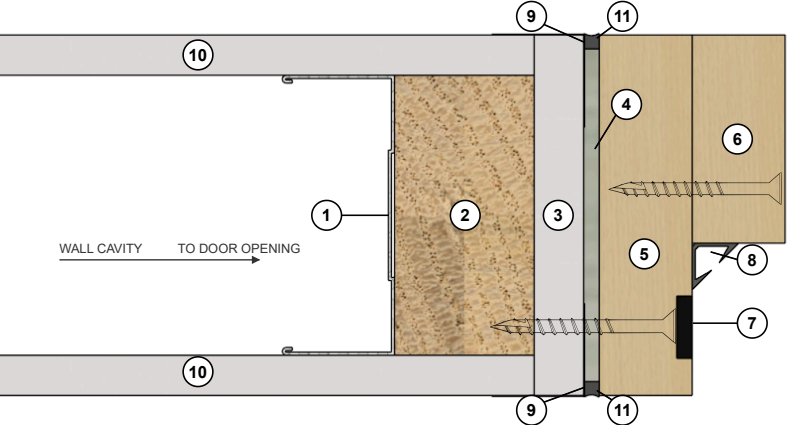
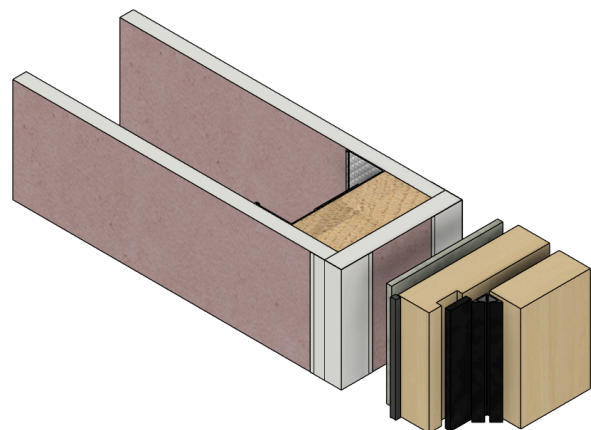

Fig.2
Fig.14
Make-up at Jamb, exploded plan. Numbers as Fig.2.
Make-up at jamb. Numbers match Fig.2 and Fig.5.
Step 5. SquareStop External Corners with Paper Tape or Angled Metal Stop, to both external corners of the reveal. Internal corners the same. (same render as Fig.14; plan numbers as Fig.2)